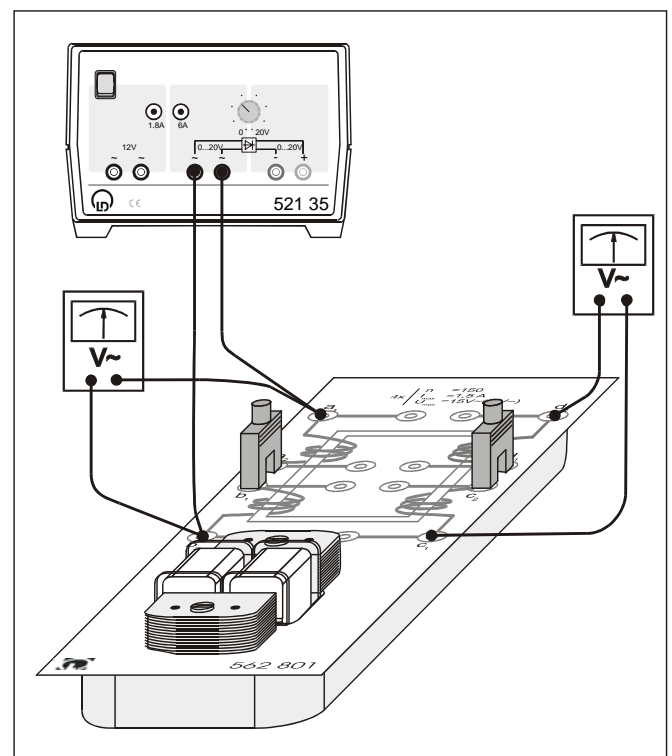

Fig. 1: Experimental setup to investigate the voltage transformation of an unloaded transformer.
- Connect the low voltage power supply, and the voltmeters as shown in Fig. 1. It is recommended to start with the ratio $N_1 : N_2$ of 300 : 150 as depicted in setup b) of Fig. 2.
Set up the transformer, the variable low voltage power supply and the voltmeter according Fig. 1. Setups for various combination of turns of the primary and secondary coil are shown in Fig. 2.